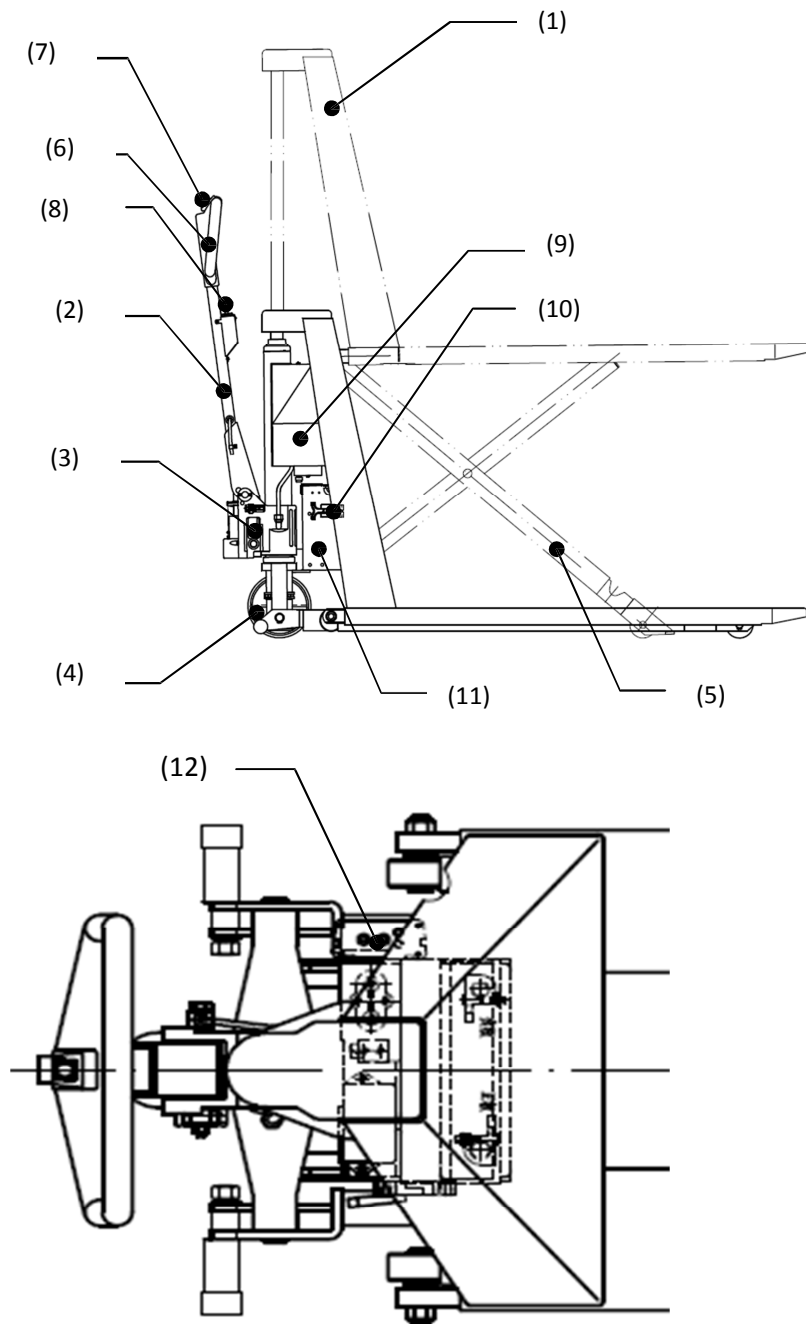

Fig.1: Overview
- 1 pc axle with hole (4)
- 2 pc dowel pin (5) [one is already assembled with the axle]
- 1 pc pre- assembled tiller arm (1)
- 1 pc pre- assembled chassis with pump unit (6)
- Connect the plug (optional for electric model) (Fig. 1, pos. 10)